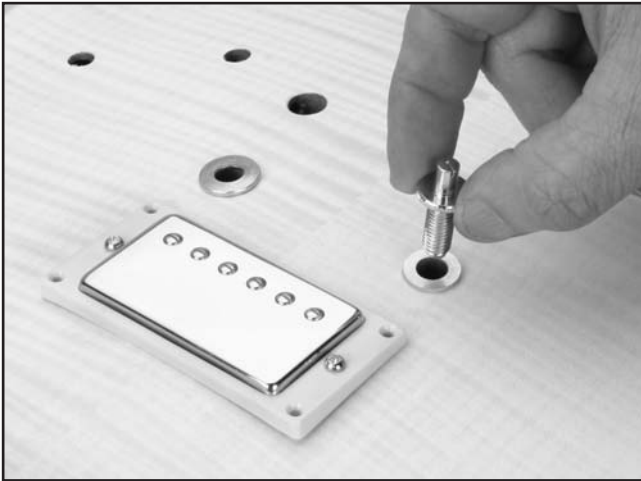

Figure 18. Bridge adjustment screw.
3. Thread the bridge adjustment screws into the inserts, as shown in **Figure 18**, and place the bridge over the inserts.